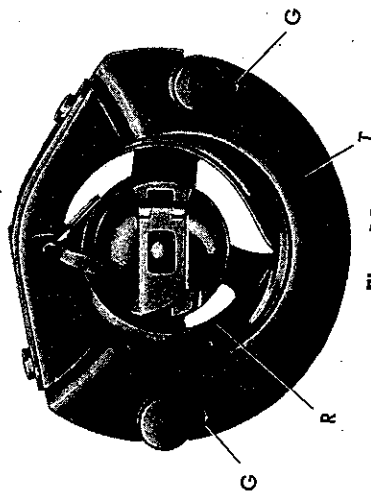

Fig. 19
d. Snap out pins "Z" (Figure 19) by spreading them apart, and, with left hand, remove race plate "T" by pulling it away from the race.